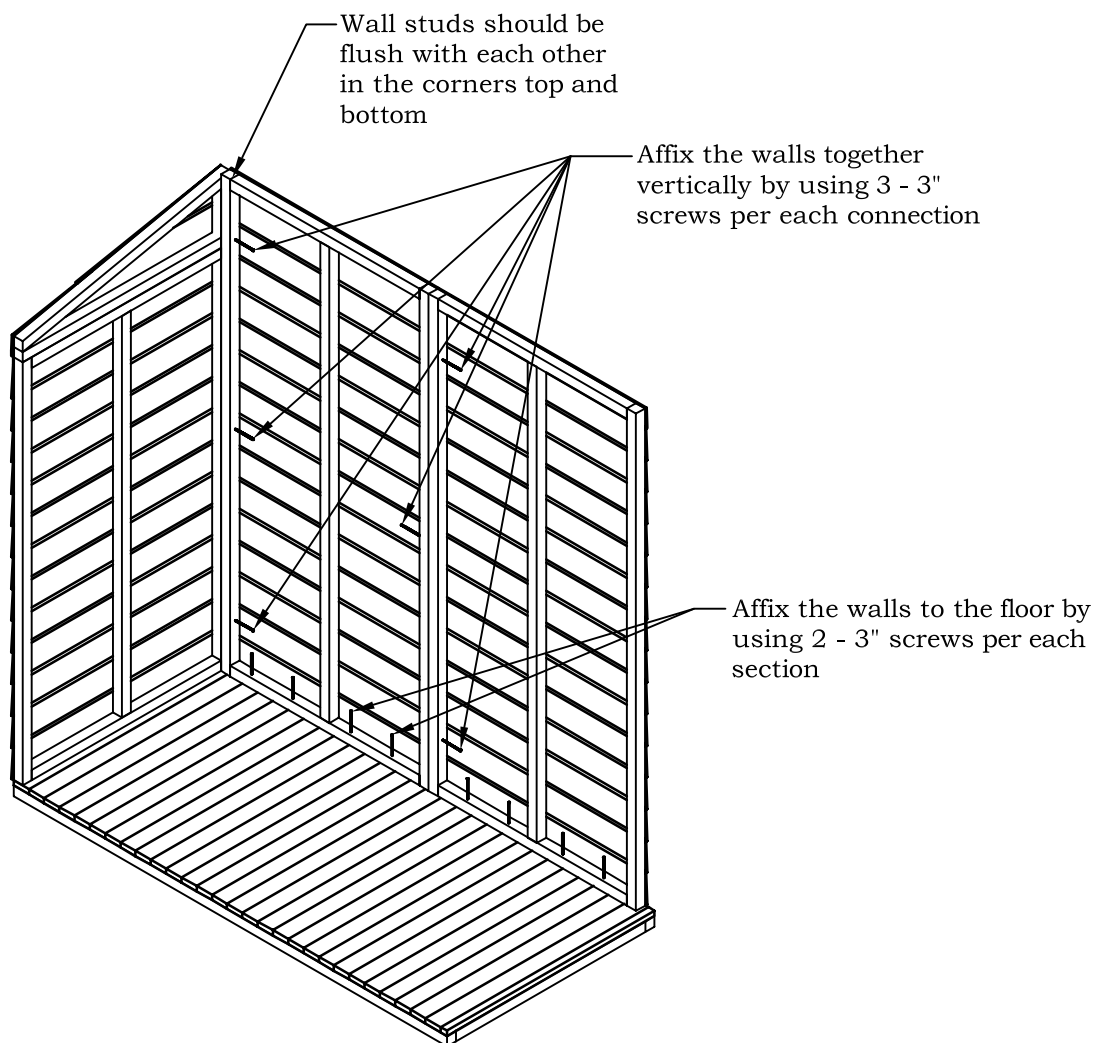

FIGURE S9
- Fasten the two Tall wall panels together in the middle as shown in Figure S9 and alternate the screws, this will strengthen the wall assembly. Continue placing each wall panel into its corresponding spots on the floor panel and affix each wall panel to each other at each joint by using 3-3" screws and to the floor panel by using 2-3" screws.